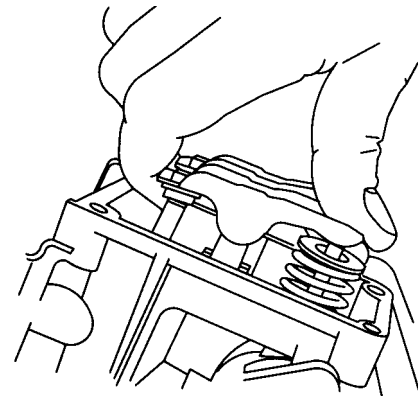

Fig. 16 - Insert Push Rods
4. Compress valve springs and insert push rods into recess in rocker arm adjustment screws, Fig. 16.